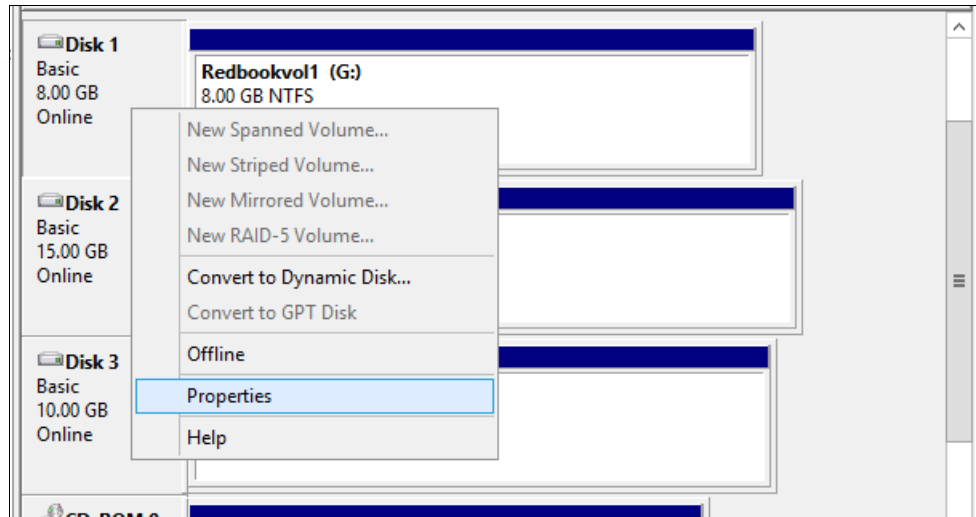

Figure 6-2 Selecting disk properties: Windows 2012
- Highlight either the Disk 1, Disk 2, or Disk 3 labels. Right-click and select **Properties**, as shown in Figure 6-2.